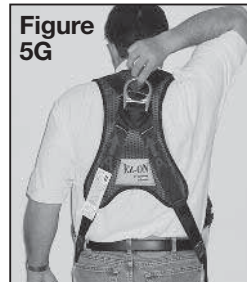

Figure 5G
STEP 6 (figure 5G) Finally, check that the back D-ring is properly located in the middle of your shoulder blades. Reach back, over your shoulder with your elbow pointing upwards. You should just be able to grasp the D-ring with your fingertips. Have a co-worker verify its location visually on your behalf. Readjust the harness and D-ring position if you cannot complete this action. Now, check that all belts and straps are secure and snug. Be sure they do not bind or restrict movement. Secure all straps into keepers or tuck them into the harness. When crouching, your sub pelvic strap should provide a seat for the buttocks in the harness. Relocate all keepers so that you minimize the slack in the straps.